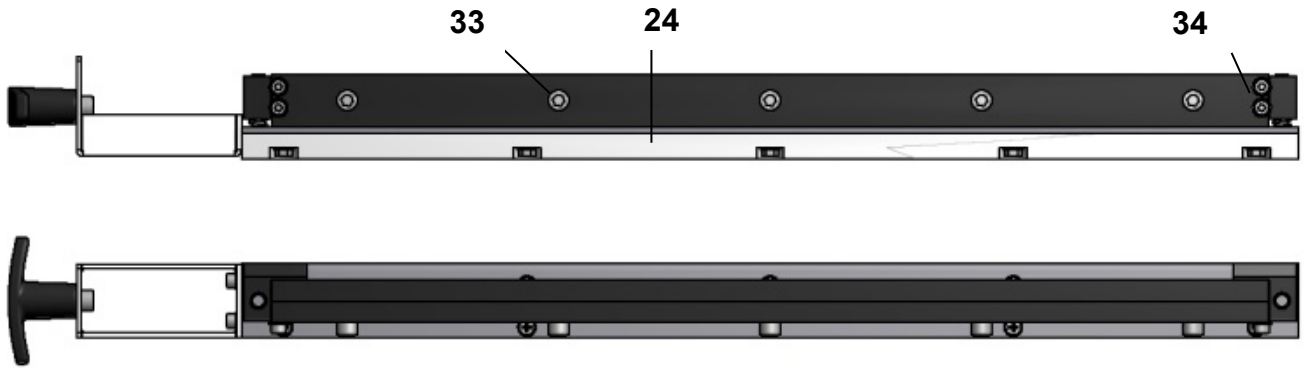

Fig. 2: Perforating tool 2:1- 9 TPI (571 40 465a) – standard equipment. Micro-perforating tool (571 40 464) as optional accessory.
- 24 – Tool base (fig. 2)
- 33 – Perforating tool screw M6x20 (fig. 2)
- 34 – Perforating tool screw M4x25 (fig. 2)